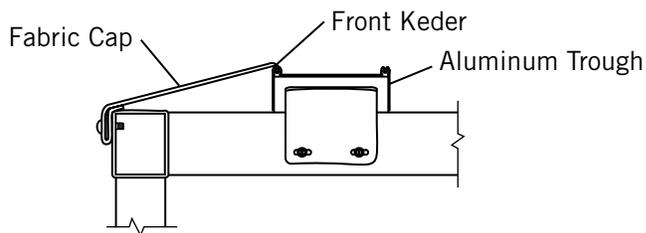

Figure 9-2
- 9) **Figure 9-2.** Feed aluminum flat bar through bottom of fabric cap.
- 10) **Figure 9-2.** Feed fabric cap through front keder of aluminum trough.